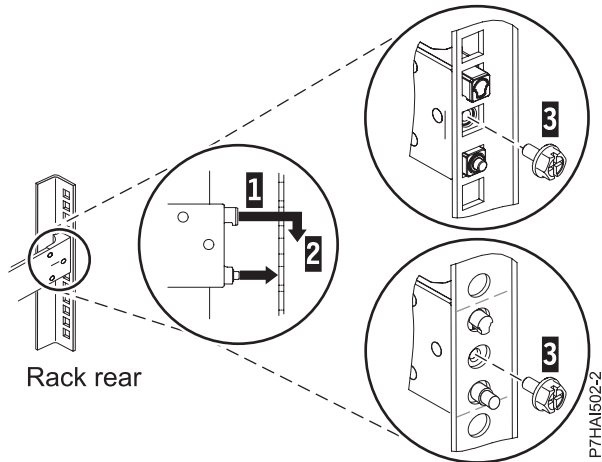

Figure 3. Aligning and engaging the pins into the holes in the rear of the rack
3. Align the two pins on the rear of the slide rail with the top and bottom holes within the selected U that were previously marked. Pull the slide rail toward you to insert the two pins into the rack holes (1), and lower the slide rail down (2) to engage the hook feature on the top pin. For details, see Figure 3 on page 5. Ensure that the two pins protrude through the rack holes before you proceed to the next step.